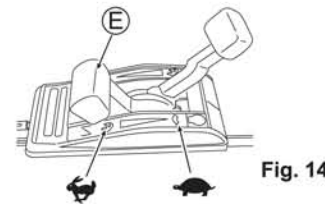

Fig. 14
- Confirm that there is no person behind you when pulling Starter knob (V).
- Securely grab Starter knob (V) when you pull it.
- Return Starter knob (V) slowly.
5. Warm up the machine before use. After the engine has warmed up, start mowing by setting Throttle lever (E) to "N". (See Fig. 14)